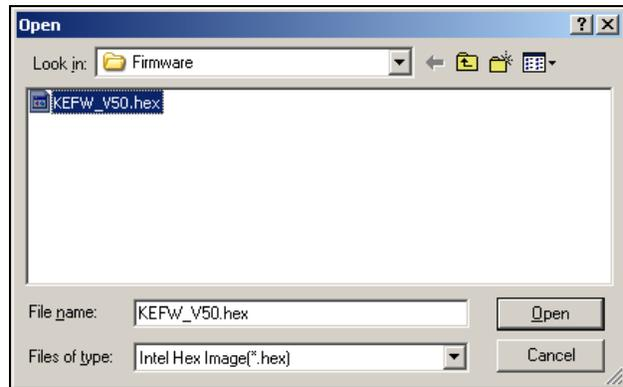

Figure 221
3. Type the name of the firmware file or select the Browse button to locate the file. See Figure 221.